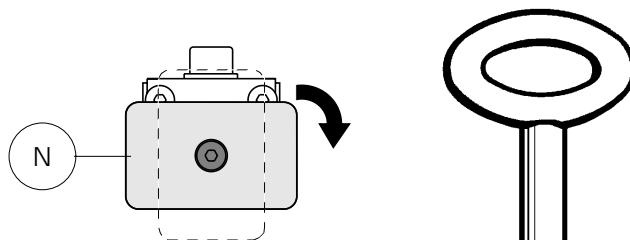

Fig. 24
- 1) position the tracer as shown in fig. 24 and operate as follows:
- 2) locate the tracer into the bullet ward using lever (F) and (G) while operating the switch in the handle, then sliding the main carriage from left to right you will reproduce the bullet ward.